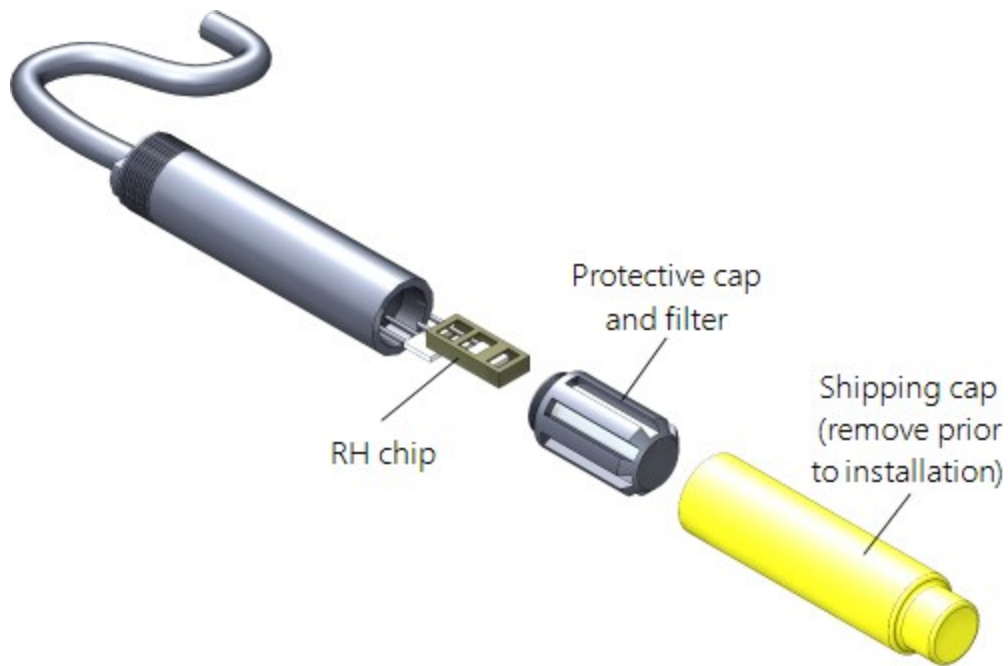

FIGURE 7-1. Exploded view of the temperature and RH sensor (adapter not shown)
- Check calibration of the HMP60-ETS Temp/RH sensor, which tends to drift up over time giving readings higher than 100%. Replace RH chip if necessary (refer to FIGURE 7-1 (p. 68) and Procedure for removing RH chip (p. 69)).
1. Unscrew the protective cap (see FIGURE 7-1 (p. 68)).